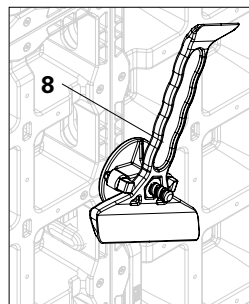

Fig. B9.02d
5. Position the DUO 62 compensation waler (**25**) on the DUO corner tie (**23.2**), and tighten with the wingnut counterplate (**54**) by hand or using the DUO cleaning device (**8**). (Fig. B9.02d)